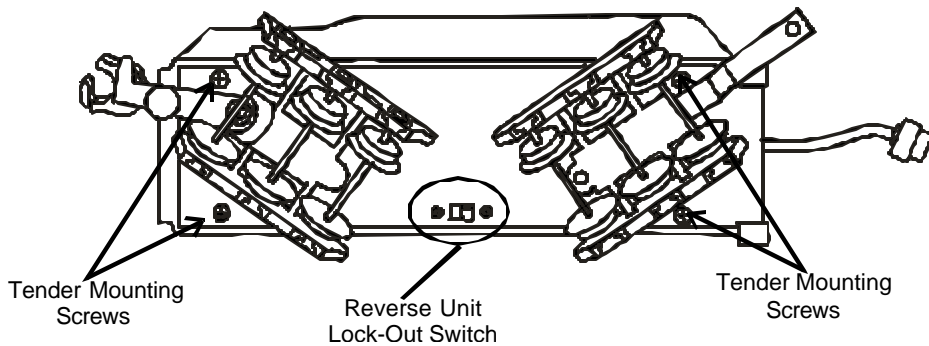

Figure 4: Reverse Unit Lockout Switch Location
using the transformer throttle or directional button and then switching the ON/OFF switch located under the tender chassis (see Fig. 4) to the OFF position. To enter the normal phase again, simply turn the switch to the ON position. After an hour or more of non-use, the reverse unit will cycle into any of the three positions and the ON/OFF switch must be set to ON in order for the engine to operate correctly.
- 1) Remove the steam engine tender body from its chassis by removing the four mounting screws located in each corner of the chassis as seen in Figure 4.